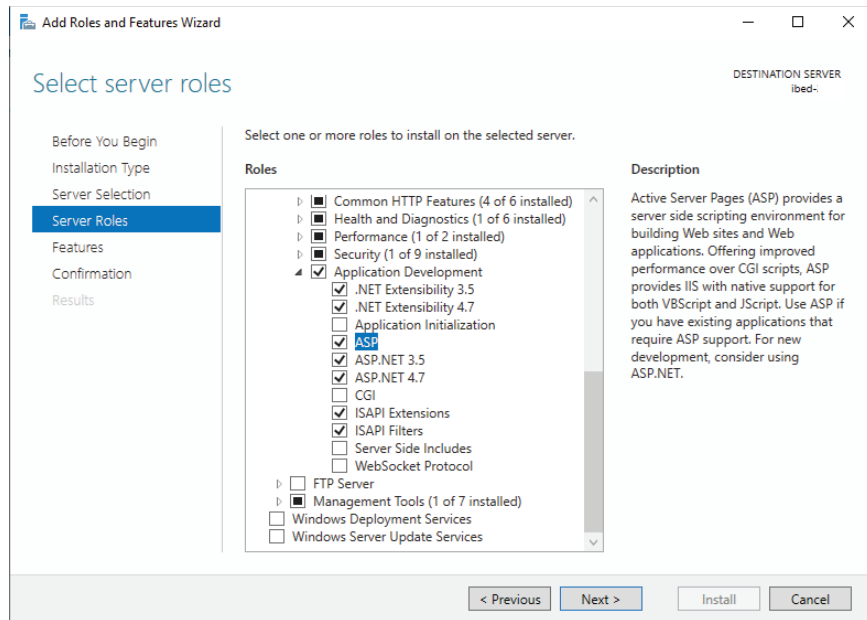

Figure 19 – ASP
20. In the **Select server roles**, select **ASP**. Select **Next** (Figure 19).